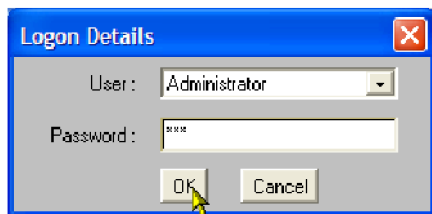

Figure 7: Login Details dialog box
8. In the Logon Details dialog box, select the user type from the drop-down list, and enter the password. (See Figure 7.)